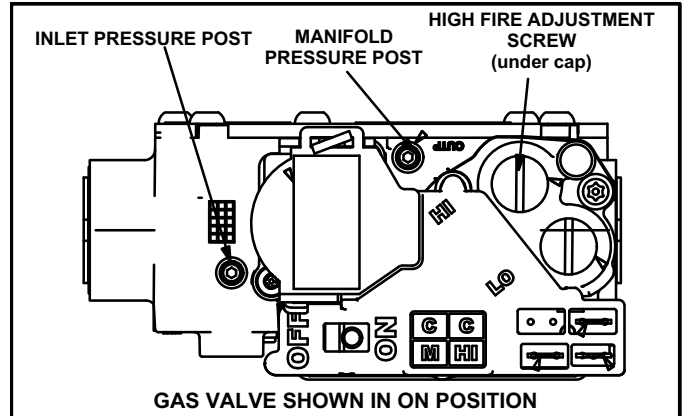

FIGURE 61
#### Gas Valve Operation (Figure 61)
- 6 - Move gas valve switch to **OFF**. See figure 61.
- 8 - Move gas valve switch to **ON**. See figure 61.
An inlet post located on the gas valve provides access to the supply pressure. See figure 61. Back out the 3/32 hex screw one turn, connect a piece of 5/16 tubing and connect to a manometer to measure supply pressure. See table 22 for supply line pressure.
A manifold pressure post located on the gas valve provides access to the manifold pressure. See figure 61. Back out the 3/32 hex screw one turn, connect a piece of 5/16 tubing and connect to a manometer to measure manifold pressure.
- 5 - If necessary, make adjustments. Figure 61 shows location of high fire and low fire adjustment screws.